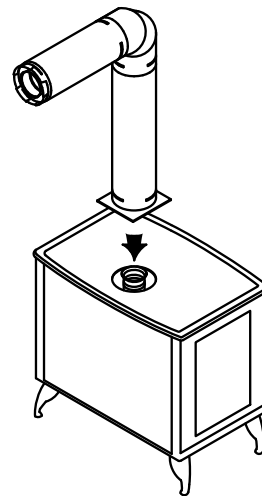

Figure 4
**Step 2.** DirectVent Pro pipe and fittings are designed with special twist-lock connections. To connect the venting system to the appliance flue outlet, a twist-lock Appliance Adaptor is required. With some brands of appliances, the M&G DuraVent Appliance Adaptor will be built into the appliance at the factory. With other brands the adaptor will be supplied by the appliance manufacturer for installation in the field. Assemble the desired combination of Pipe Sections and Elbows to the Appliance Adaptor (**Fig. 4**).